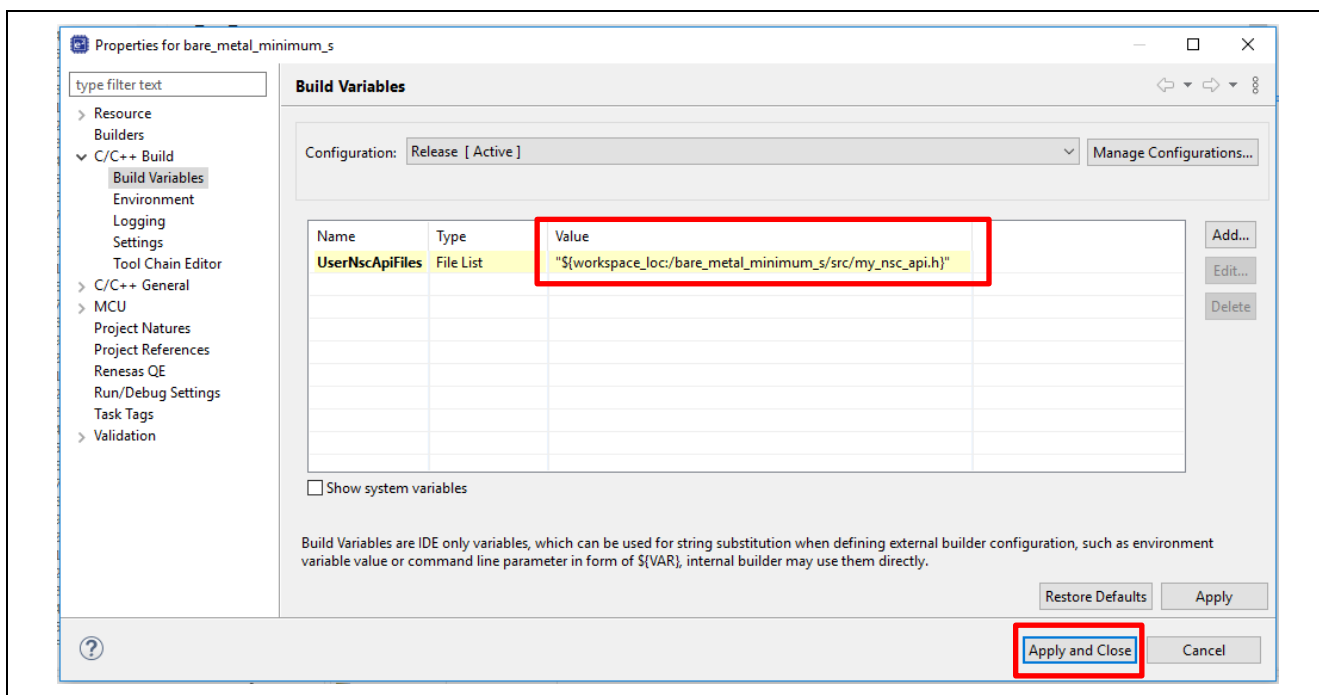

Figure 19. Link User-Defined Non-secure Callable API Header File
3. Include the path to the NSC header using the Build Variable as shown in Figure 19.